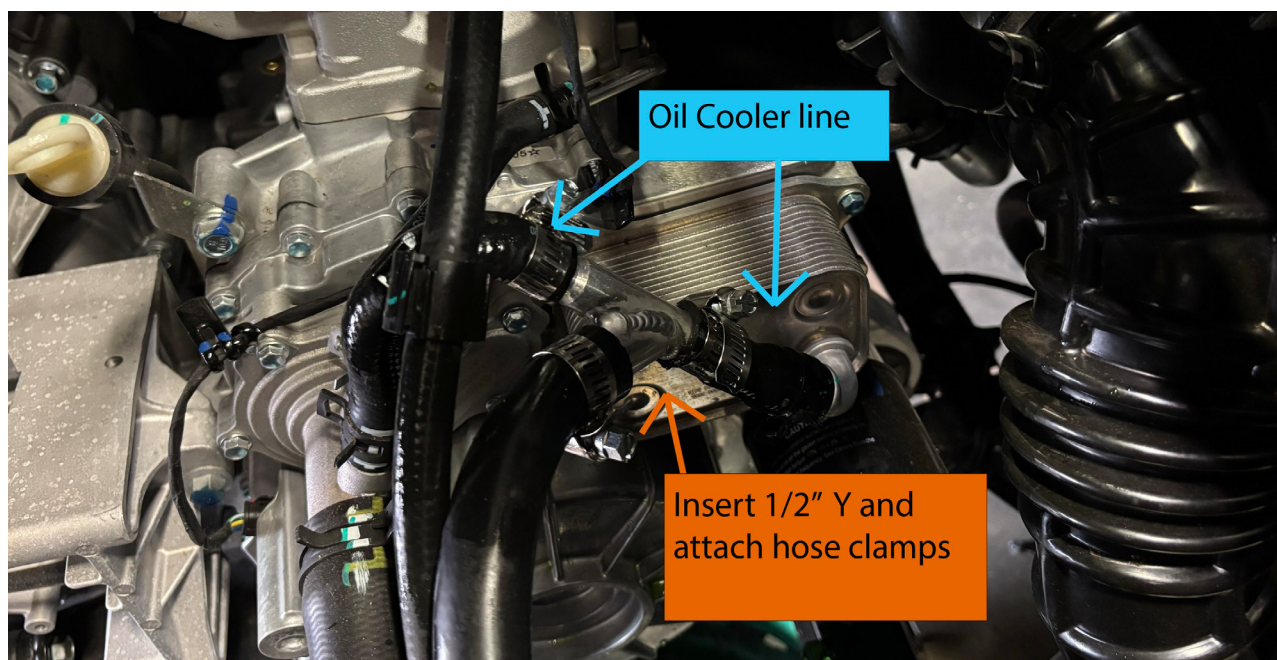

FIGURE 9
34. Cut oil cooler line and insert 0.5" aluminum Y, with Y facing the back of the machine, and secure with #10 hose clamps. FIGURE 9